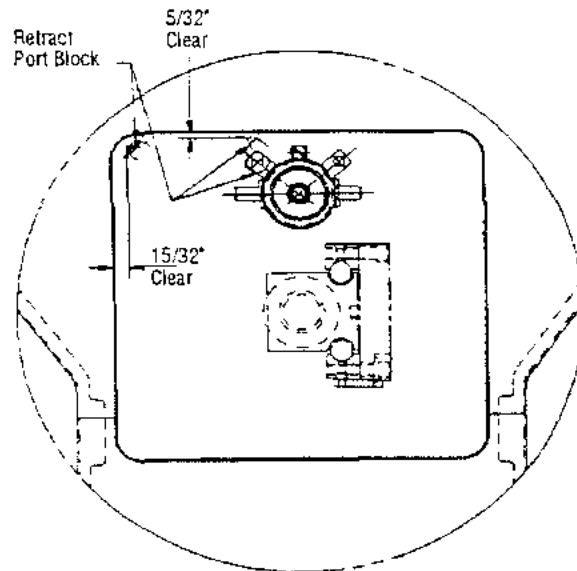

Figure 12-2. Minimum Seat/Cylinder Base Shroud Clearances
4. Lower tabletop until lower end of seat cylinder is just below the upper edge of the shroud. The minimum clearance between the seat cylinder (retract port block) and the shroud should be $15/32"$ (11.9 mm) on the left side and $5/32"$ on the foot end as shown in Figure 12-2. If either (or both) of these dimensions is less than the minimum, increase the clearance by increasing the projection of the bumpers.